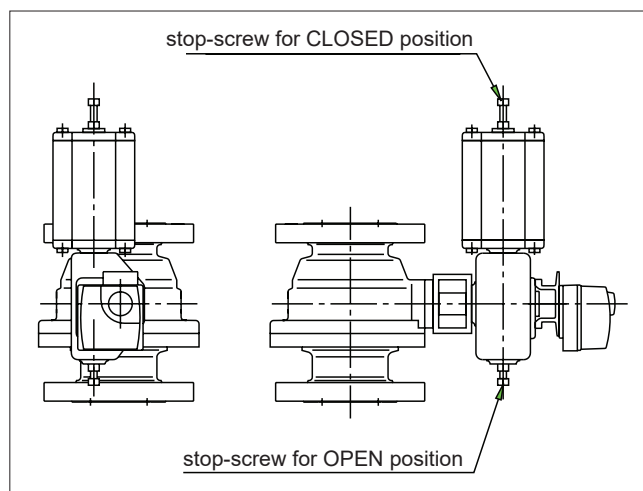

Fig. 29 Open and closed positions of the B series actuators
- Adjust the ball open and closed positions by means of the actuator stop screws located at both ends (see Fig. 29). An accurate open position can be seen in the body flow bore. Check that the yellow arrow on the actuator indicates the ball flow opening position. **Watch out for your hand!**